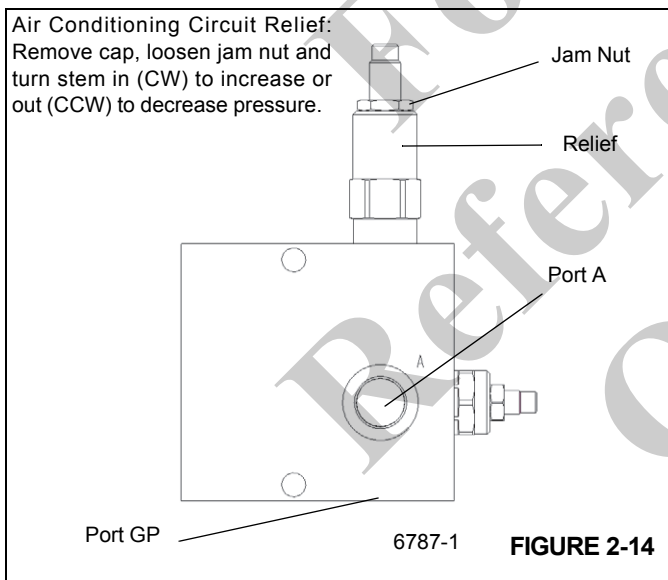

FIGURE 2-14
2. Run the engine at 1000 rpm. Adjust the air conditioning flow divider relief (see Figure 2-14) to  $104 \pm 4$  bar ( $1500 \pm 50$  psi). Hold adjustment with jam nut. If this step needs to be repeated, make sure pump is not hot to the touch. If it is, allow to cool before proceeding.